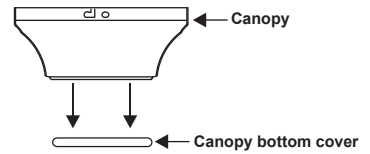

Fig.8
1. Remove the decorative canopy bottom cover from the canopy. (Fig. 8)